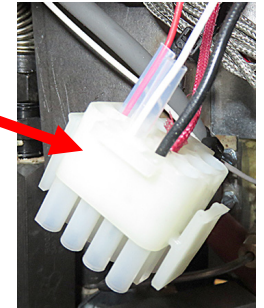

Figure 10
13. Disconnect the plug located to the left of where your hand is located and gently lower ensuring that no pins are pulled from the plug (see Figure 10).